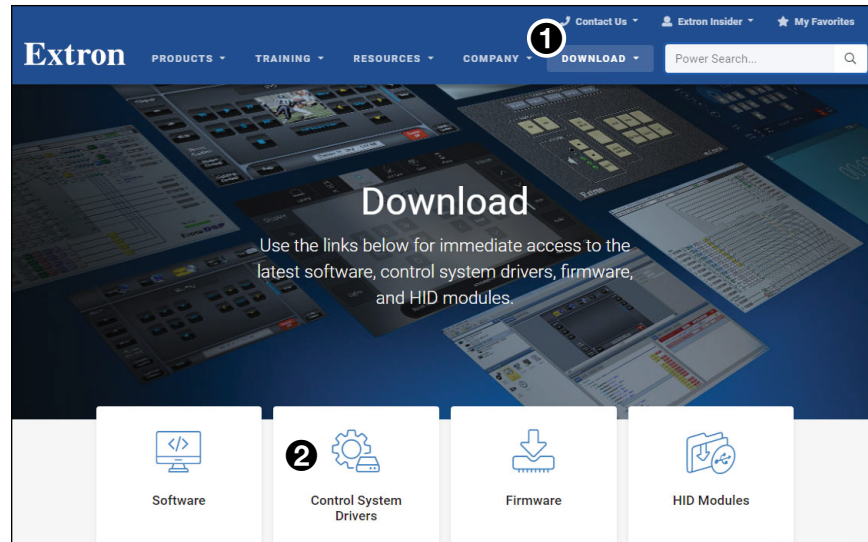

Figure 26. Extron Download Page
1. Select the **Download** button (see figure 26, ①) and then click the **Control System Drivers** option (②).